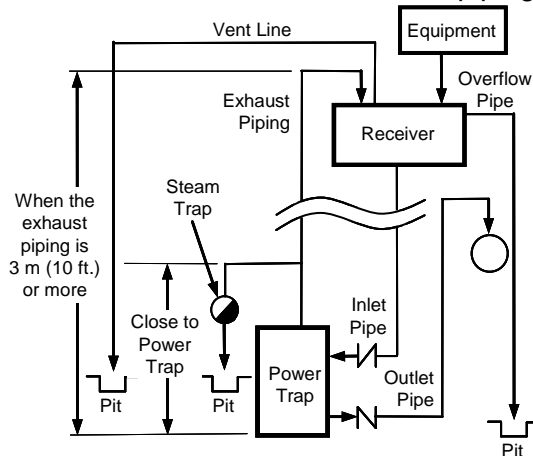

Figure 1: Open Systems
- (a) **For Open Systems Only:** Add a float-type steam trap to the exhaust pipe at a point just above where the exhaust pipe exits the unit body. (Figure 1)